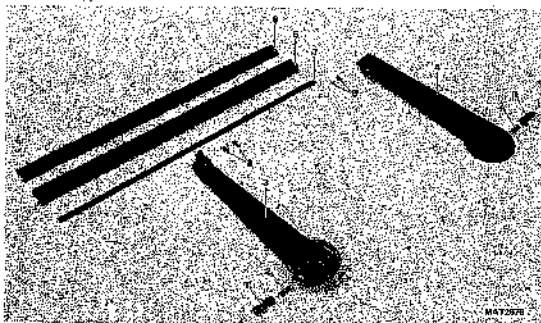

Figure 10.7 Carrying handle
- Remove the plastic profile cover, (Item 6 in figure 10.7) which is snapped on the carrying profile (5).
- Remove the four screws (8) which fix the carrying profile to the handle arms.
- Depress the locking pins (1) and turn the carrying handle as far as possible to the upper side of the oscilloscope.